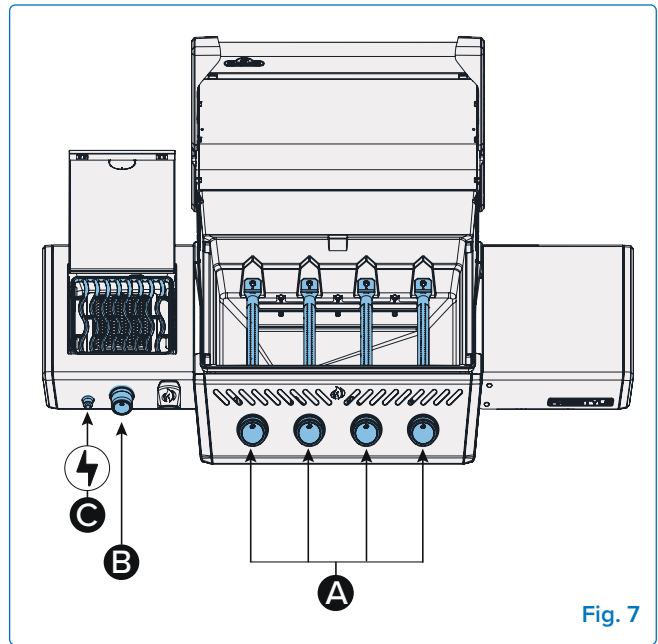
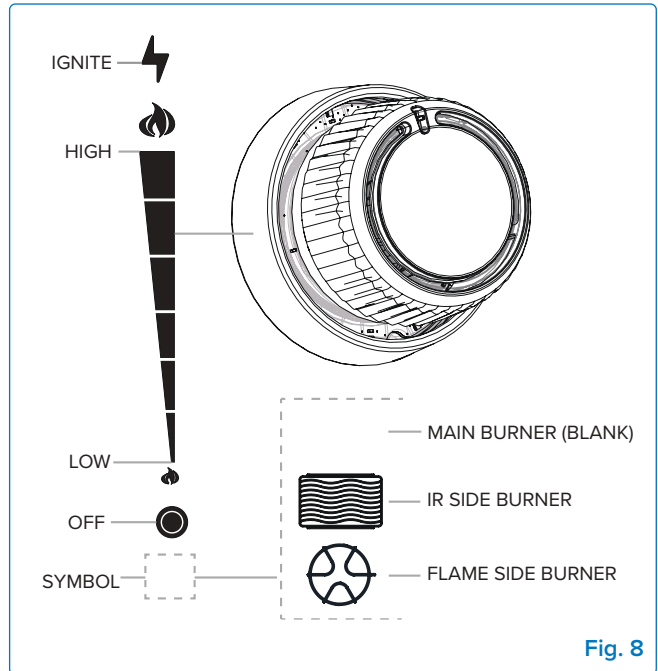

Fig. 7
Fig. 8
1. Open grill lid (**Fig. 7**).
2. Push and slowly turn any main burner knob counter clockwise to HIGH position until pilot lights. Continue to push down on the control knob until the burner lights and then release (**Fig. 7-A, Fig. 8**).
2. Push and slowly turn side burner knob counterclockwise to HIGH position until the spark lights the burner **(Fig. 7-B, Fig. 8).**
2. Push and slowly turn side burner knob counterclockwise to HIGH position **(Fig. 7-B, Fig. 8).**
3. Press and hold igniter button until the burner lights, or light by match **(Fig. 7-C)**